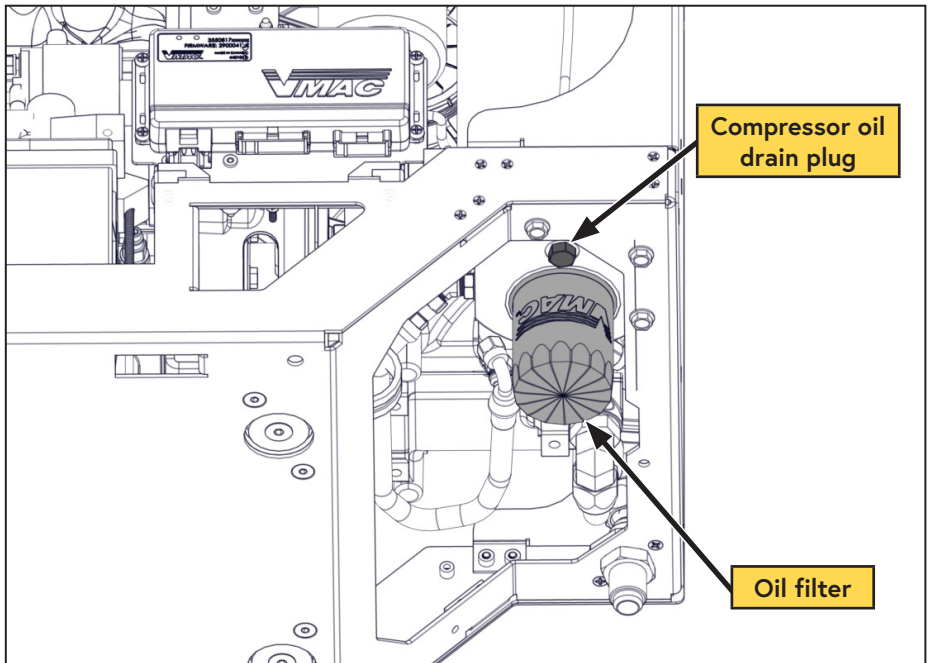

Figure 9 — Drain compressor oil
- Remove the oil drain plug and drain the oil into a container with a capacity of at least 1.3 USG (5 L) (Figure 9).
- Remove the oil filter (Figure 9).